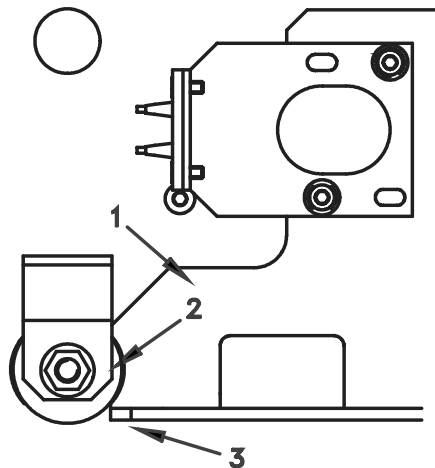

Figure 42 Adjust Car Doors
1. Move the door hangers (1) to the fully closed position against the bumper (2). See Figure 42.